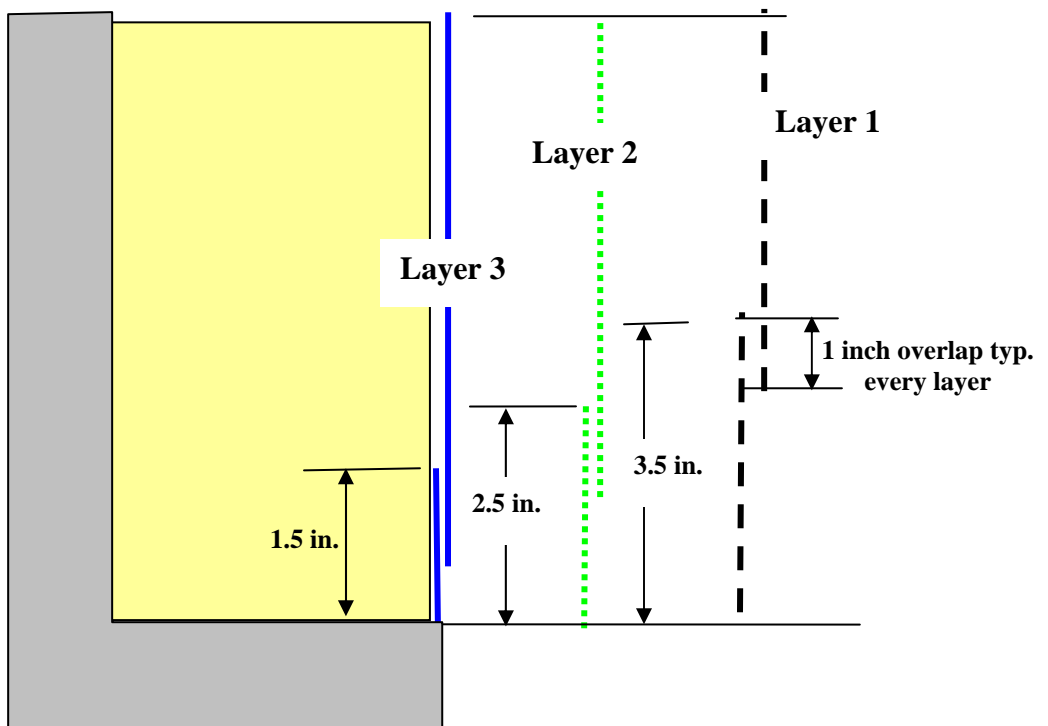

Figure 26- Groundwrap Overlap Scheme
- 6.28.1 Complete the outer groundwrap insulation on both coil bundles A & B. Overlap the individual layers of Groundwrap and secure in position with adhesive back Kapton tape. Remove the minimum number of clamps needed to complete a section of the ground wrap. [Figure 26- Groundwrap Overlap Scheme]